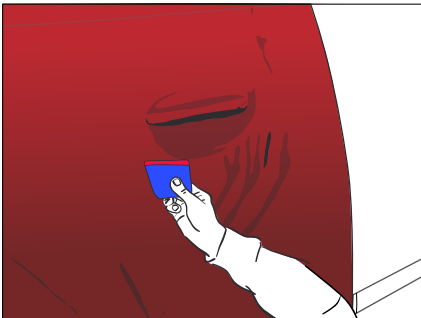

Figure 22
- › Stretch the film over the door handles and, using a squeegee, apply the film all around the door handles. (FIG. 22)